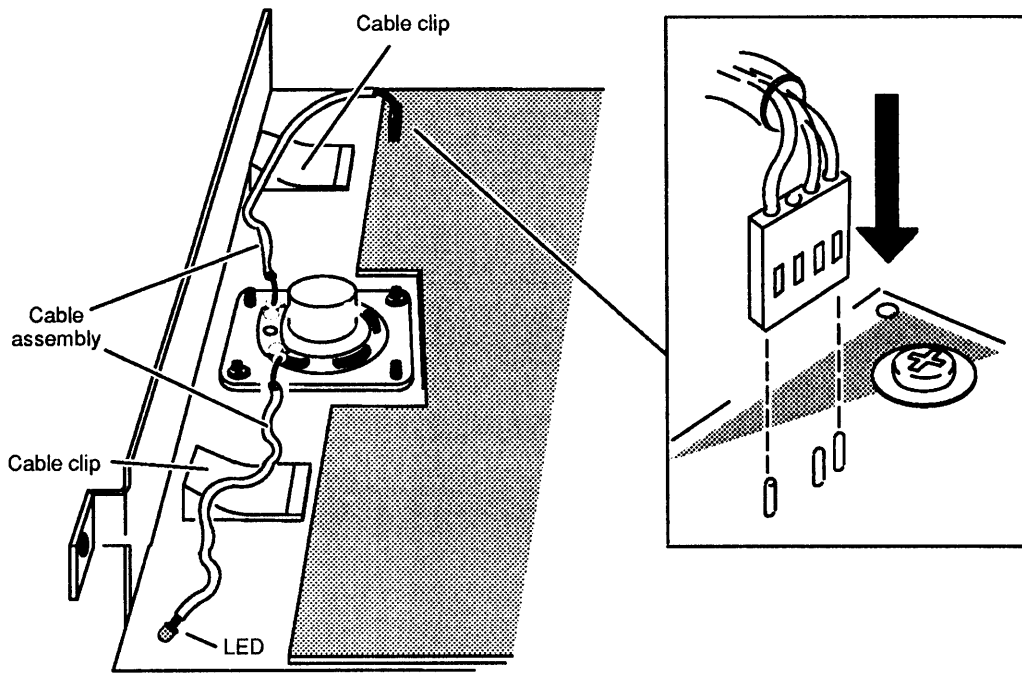

Figure 4-22 Connecting the Cable Assembly to the Printed-Circuit Board
4. Connect the cable assembly to the printed-circuit board, as shown in Figure 4-22.